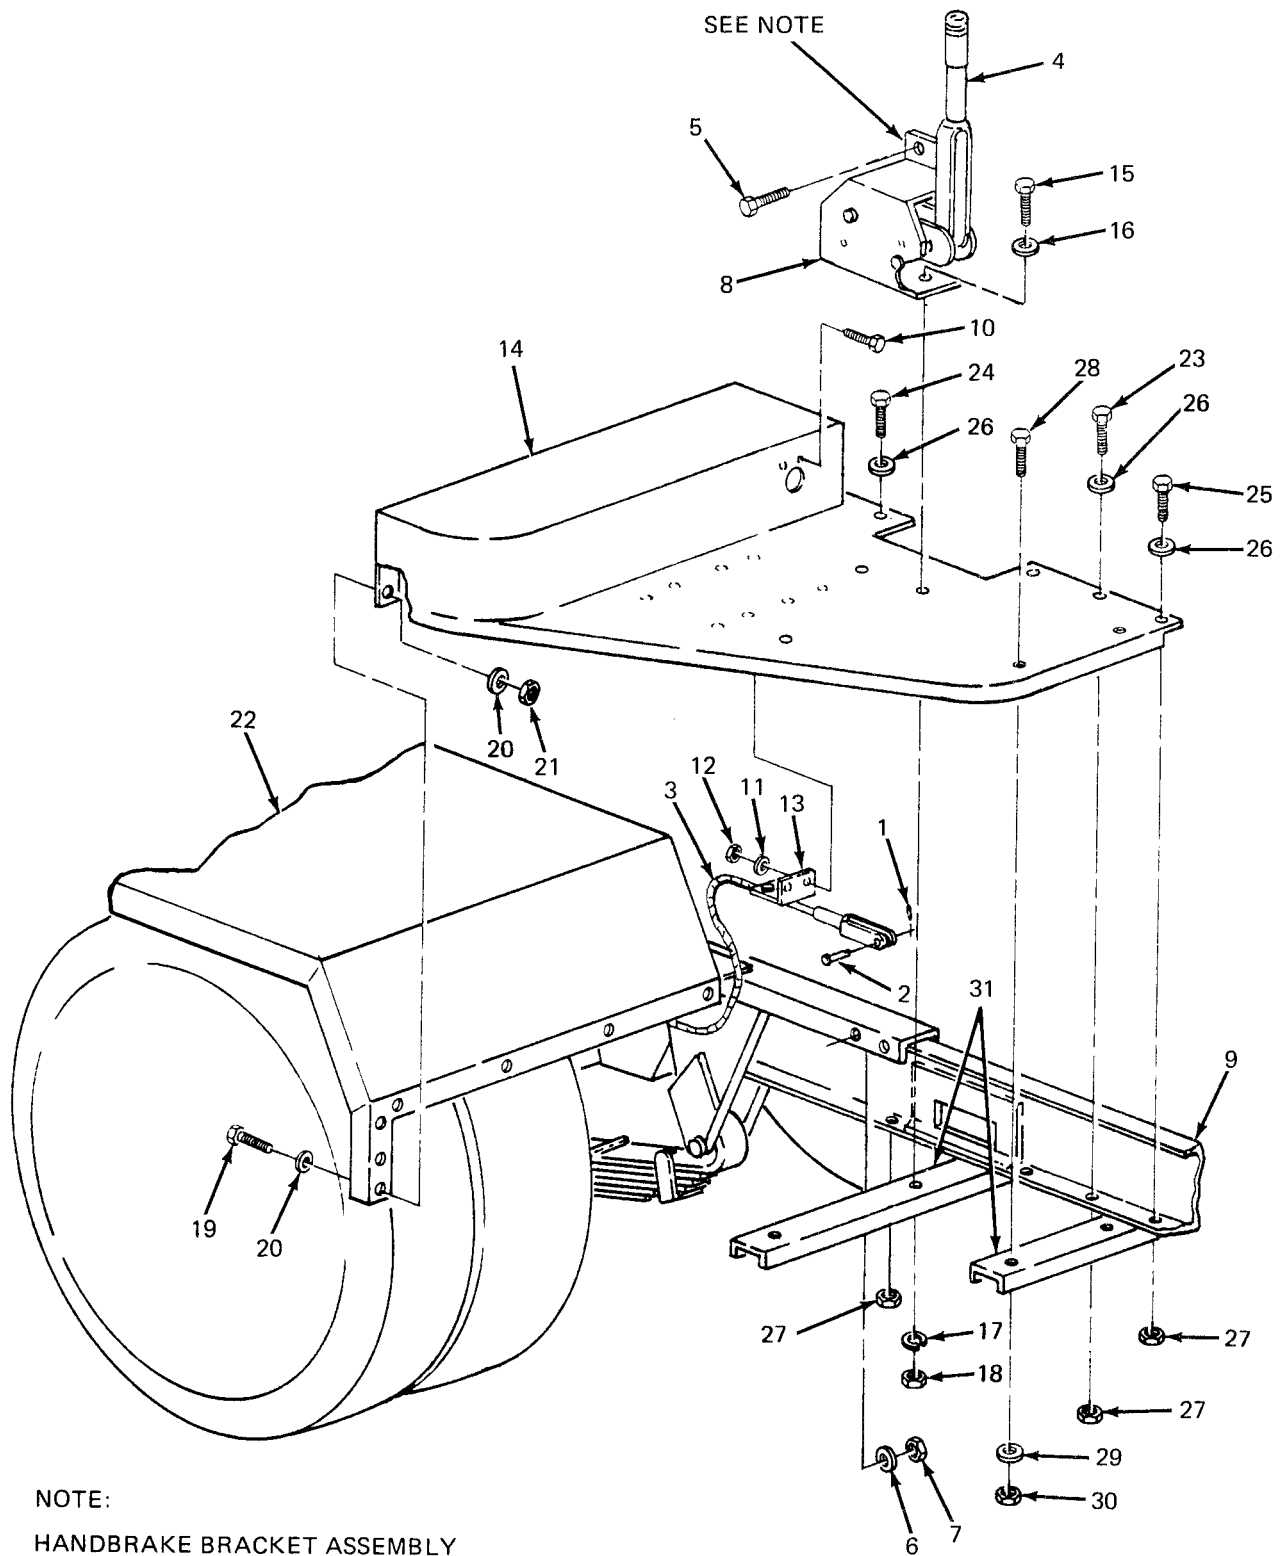

Figure 4-8. Front Steps Replacement.
4-20. Front Steps Replacement. (See figure 4-8.) The roadside and curbside front steps are symmetrical, and replacement procedures are the same except where noted in the steps below.
- (1) Remove fuel can brackets (paragraph 4-17, a).
- (2) Remove accessory box (paragraph 4-18, a).
- (3) Remove cotter pin (1, figure 4-8) and clevis pin (2) securing handbrake cable (3) to handbrake lever mechanism (4).
- (4) Remove two screws (5), two flat washers (6) and two nuts (7) securing handbrake bracket (8) to trailer frame (9).
- (5) Remove two screws (10), two flat washers (11) and two nuts (12) securing handbrake cable bracket (13) to front step (14).
Three different size screws are used to mount the front step. Screws with index numbers (5), (10), (18) and (23) in figure 4-8 are one inch long. Screw with index number (24) is 1-1/4 inch long. Screws with index numbers (15), (22) and (27) are 1-3/4 inch long. Observe lengths and locations when installing hardware.
- (1) Position front step (14) on cross braces (31) and trailer frame (9). Insert clevis on handbrake cable (3) through hole in front step (14).
- (2) Insert four screws (23, 24 and 25) with flat washers (26) through front step (14) and trailer frame (9).
- (3) Insert three screws (28) with flat washers (29) through front step (14) and trailer cross braces (31).
- (4) Working under step, install one nut (30) on each screw (28) securing front step (14) to cross braces (31), and install one flat washer (26) and one nut (27) on each screw (23, 24 and 25) securing step to trailer frame (9). Tighten seven sets of hardware.
- (5) Secure front step (14) to fender (22) with seven screws (19), 14 flat washers (20) and seven nuts (21).
- (6) Insert screw (15) with flat washer (16) through handbrake bracket (8), front step (14) and cross brace (31). Install lockwasher (17) and nut (18) on screw from underneath and tighten.
- (7) Insert two screws (5) with flat washers (6) through handbrake bracket (8) and trailer frame (9). Install one nut (7) on each screw and tighten.
- (8) Insert two screws (10) through front step (14) and handbrake cable bracket (13). Install one flat washer (11) and one nut (12) on each screw and tighten.
- (9) Position clevis on handbrake cable (3) on handbrake lever mechanism (4). Insert clevis pin (2) and secure with cotter pin (1).